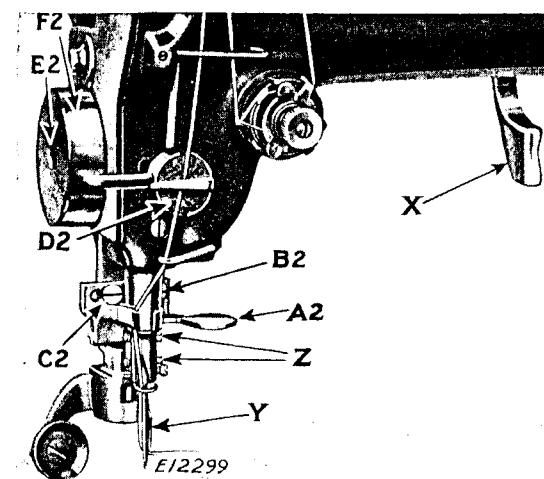

Fig. 25. Adjustments on the Trimmer of
When replenishing the lubricant supply, fill the reservoir (F2, Fig. 25) to about $\frac{1}{8}$ inch below the filler hole (E2, Fig. 25).
The amount of lubrication of the thread is controlled by raising or lowering the felt pad holder (D2, Fig. 25) above or below the level of the lubricant. For more lubricant, lower the felt pad holder. For less lubricant, raise the felt pad holder.
The knife (Y, Fig. 25) should be set so that its cutting edge presses against and just passes below the cutting edge of the throat plate cutting bar to ensure making a shear cut. Care should be taken to keep the knife sharp.
The sidewise adjustment of the knife is made by loosening the two screws (B2 and C2, Fig. 25) and moving the knife holder to the right or left, as may be required, after which the two screws (B2 and C2) should be securely tightened.
To adjust the knife to the correct height, loosen the two screws (Z, Fig. 25) and move the knife up or down on the knife holder, after which securely tighten the two screws (Z).